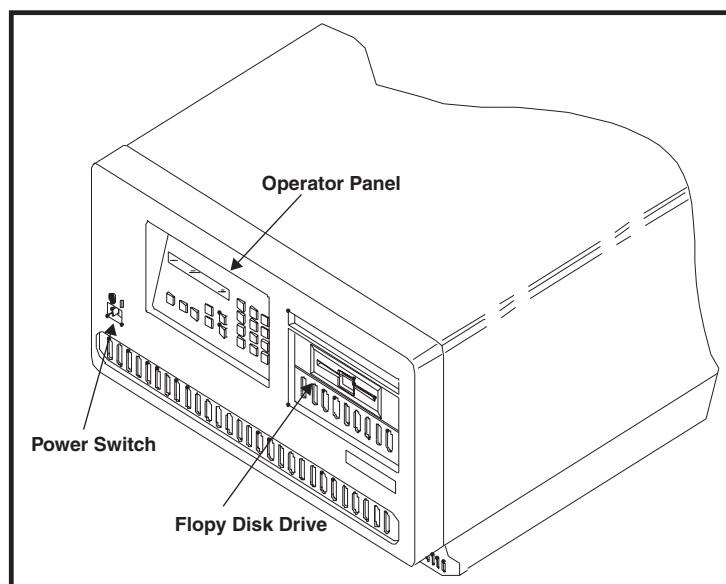

Figure 3-1. 25S/25L/28L/3074 Unit
The power switch is located below the operator panel. Set the switch to the On (I) position to turn on power, and set the switch to the Off (O) position to turn off power. See Figure 3-1.